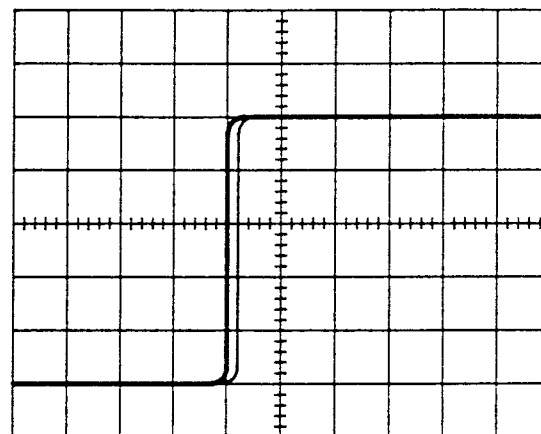

Fig. 4-5. Horizontal Jitter
- A. Set the FEET/DIV control to 1 (METRES/DIV at 0.25) and the Multiplier to X1. Release the OTHER button (all push buttons should be out). Disconnect the cable from the CABLE connector and connect the 50 Ω terminator. Adjust the ZERO REF (SET) and POSITION controls so that the pulse is on screen. Check that the horizontal jitter is not greater than 0.2 division (see Fig. 4-5).